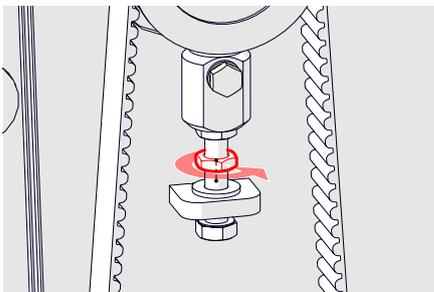
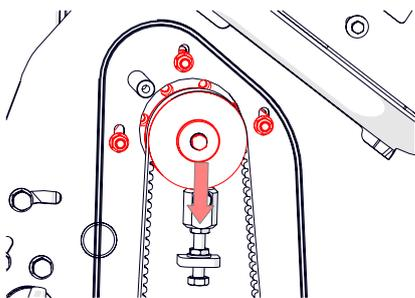

Fig.14D - Loosen fully the tensioner block locking nut.
Fig.14E - Support the weight and lower.
5. While supporting the weight of the motor and belt, loosen fully the tensioner block lock nut [17 mm spanner] below the tensioner block and lower (Fig.14D & Fig.14E).